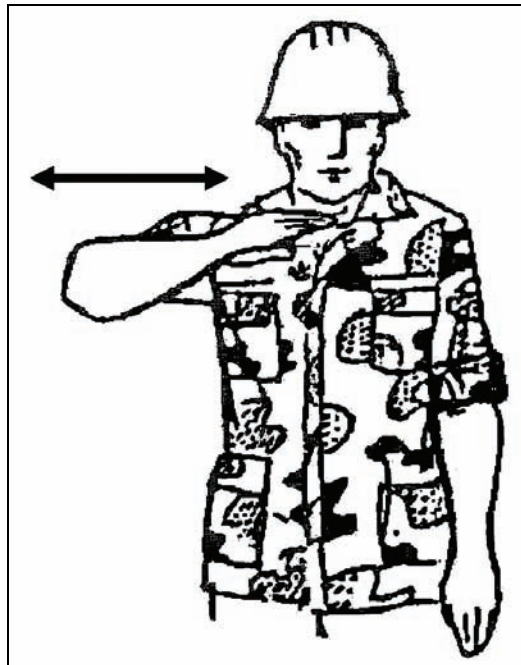

Figure 3-87. Cut Engine (Engine Shutdown)
9. Use the signal to indicate CUT ENGINE (engine shutdown) (see Figure 3-87).